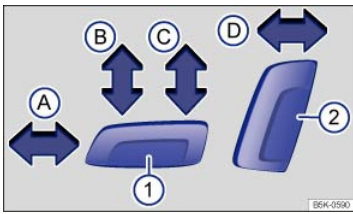

Fig. 69 Driver seat: Electrical controls to move the seat backward or forward, and adjust seat cushion height and backrest angle (if equipped).
Press the switch in the direction of the arrow ⇒ Fig. 69 :
- ① Adjust the lumbar support. Push the lever forward or pull it backward.
- ② Adjust the backrest angle. Lean forward and turn the adjuster wheel forward or backward. If the vehicle has an electrical control for adjusting the backrest angle, see ⇒ Fig. 69②.
- ③ Adjust the seat height. Move the lever several times up or down.
- ④ Move the front seat forward or back. Pull the lever up and move the front seat. The front seat must lock in place after the lever is released!